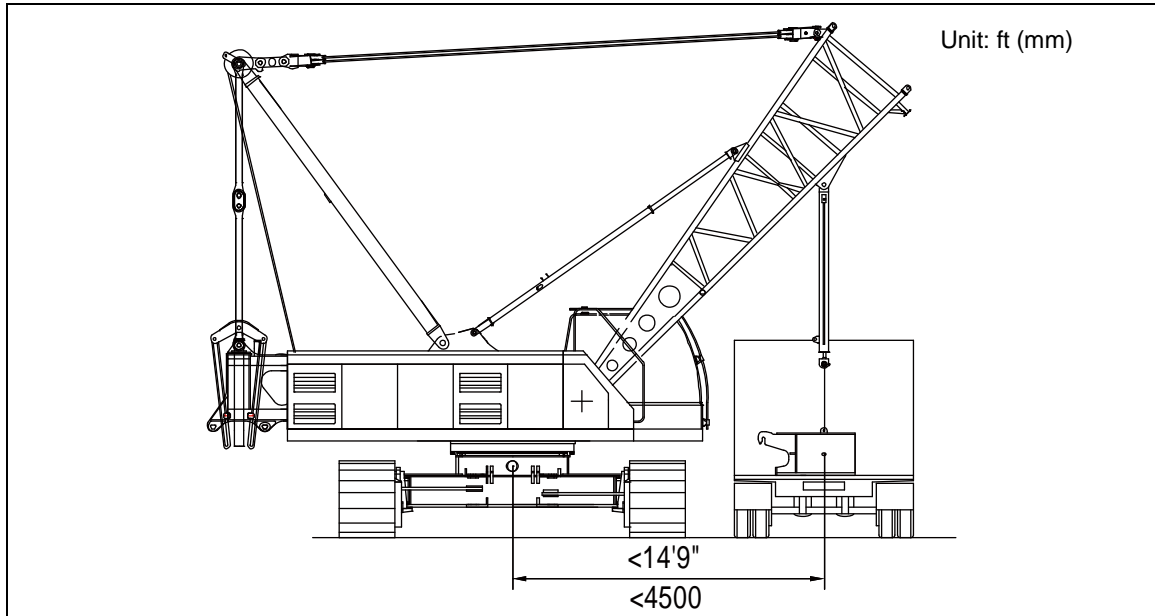

Figure 5-23 Unloading of central counterweight
- a) Stop the transport vehicle with central counterweight attached at the side of basic machine, and lift the central counterweight from the vehicle via mounting cylinder. See the figure 5-23.